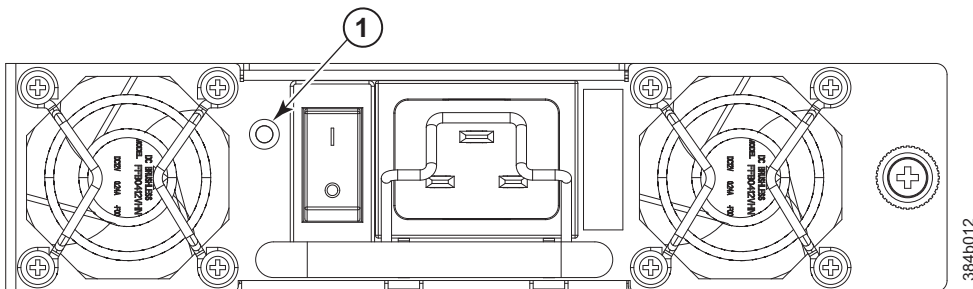

Figure 24. Power supply
1. Check the LED indicators on each power supply (see Figure 24). The LED patterns may temporarily change during POST and other diagnostic tests; for information about how to interpret the LED patterns, see Table 11. Be sure to check both power supplies.